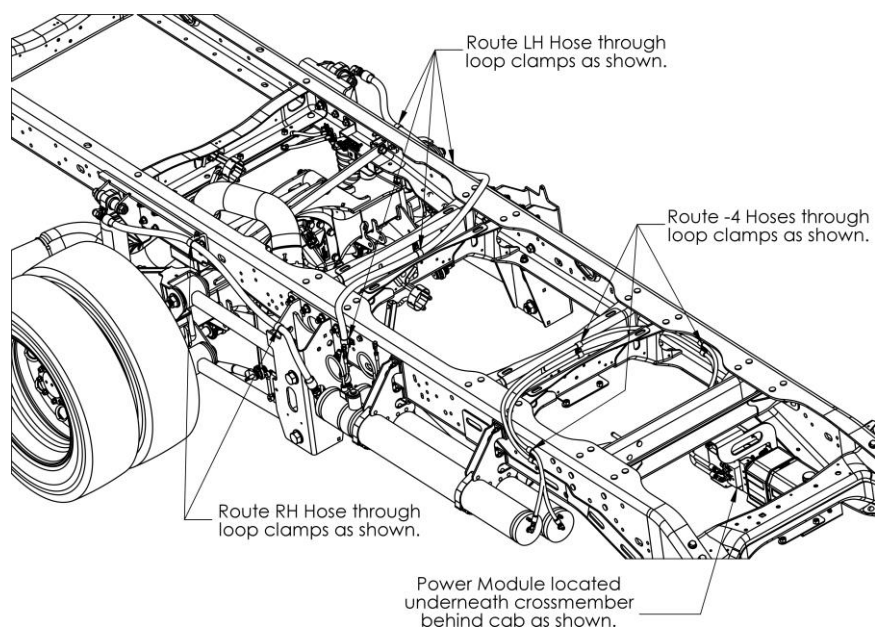

Figure 38. Location of loop clamp and routing (DS135RS2M)
7. Secure the hose using the included hose clamps and fasteners. Refer to Figure 38.